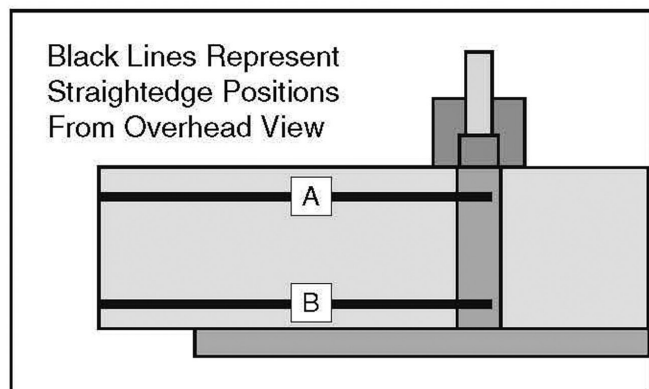

Figure 21. Straightedge positions A and B.
5. Move the straightedge to position **A**, as shown in **Figure 21**. Turn the jack screw nearest the fence counter-clockwise $\frac{1}{8}$ of a turn until the end of the knife touches the straightedge.
6. Move the straightedge to position **B**, as shown in **Figure 21**. Turn the jack screw nearest the guard counter-clockwise $\frac{1}{8}$ of a turn until the end of the knife touches the straightedge.